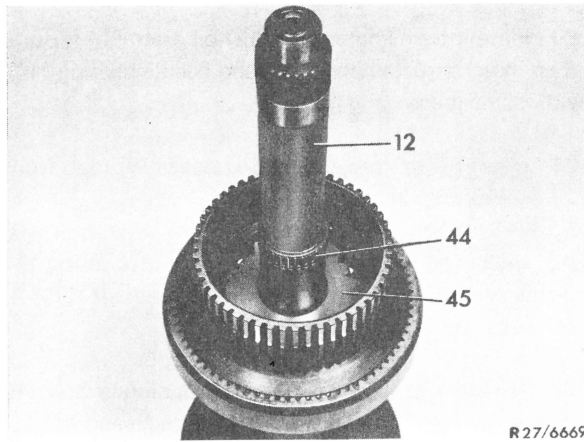

Fig. 8
10 Remove needle bearing (44) and thrust washer (45) from intermediate shaft (12) (Fig. 8).
20 Place intermediate shaft (12) on assembly fixture, then insert thrust washer (45) and needle bearing (44) with some grease (Fig. 8).